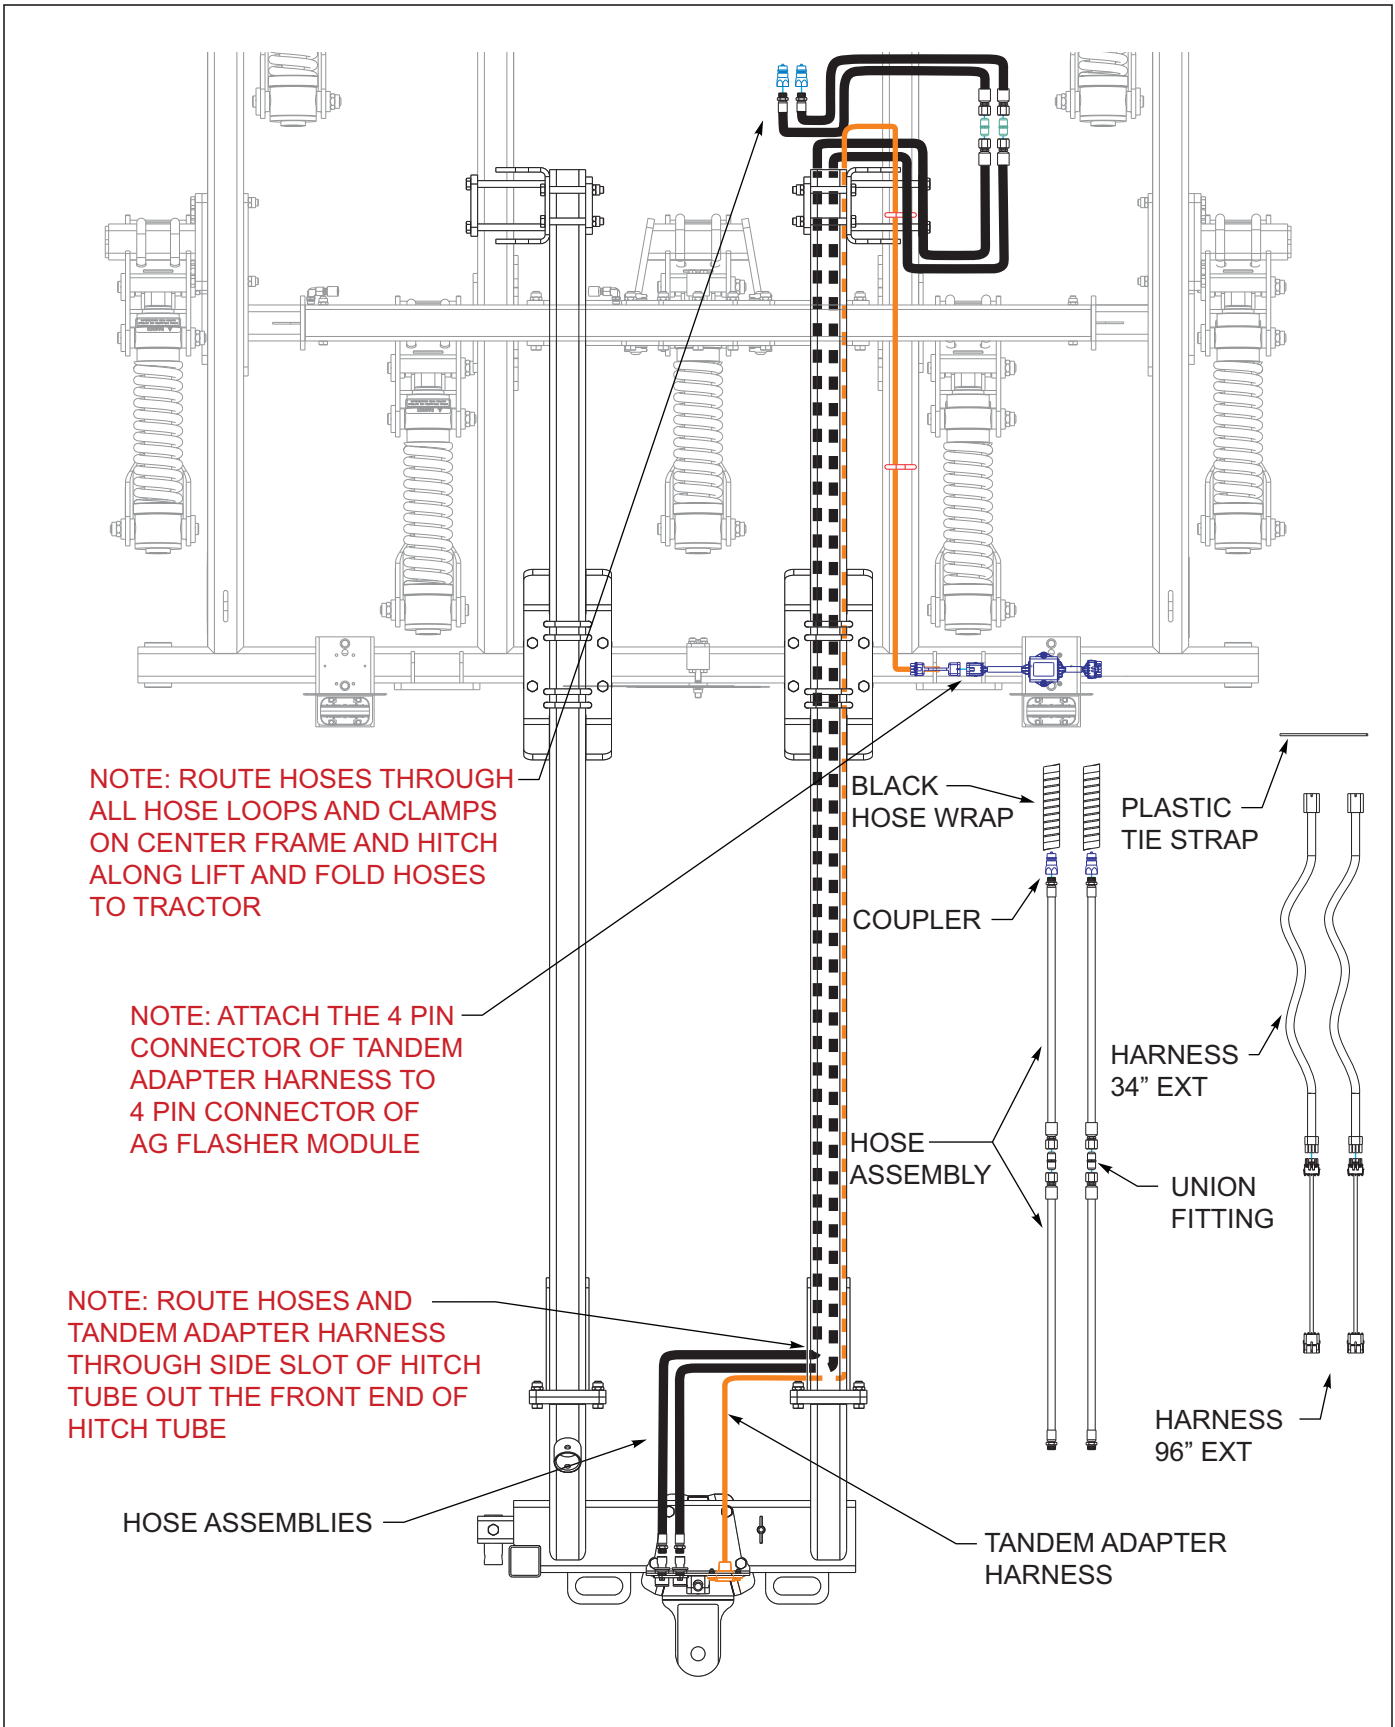

Figure 3-49: Rear Tow Hitch Layout
10. Route hydraulic hose assemblies on right side of hitch, through tube and follow hose loops to front as shown See Figures 3-49. Connect one end of the hyd mount assembly and the other end to the union fittings. Connect the couplers to the hose assembly. Attach the other end of the hoses to the union fittings as shown.